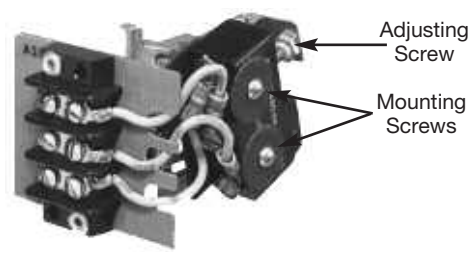

Figure 1
2. Remove two mounting screws holding existing switch, refer to Figure 1.
- c. If switch actuation is not correct, change adjustment of actuating screw using a 1/16" hexagon key wrench, refer to Figure 1.